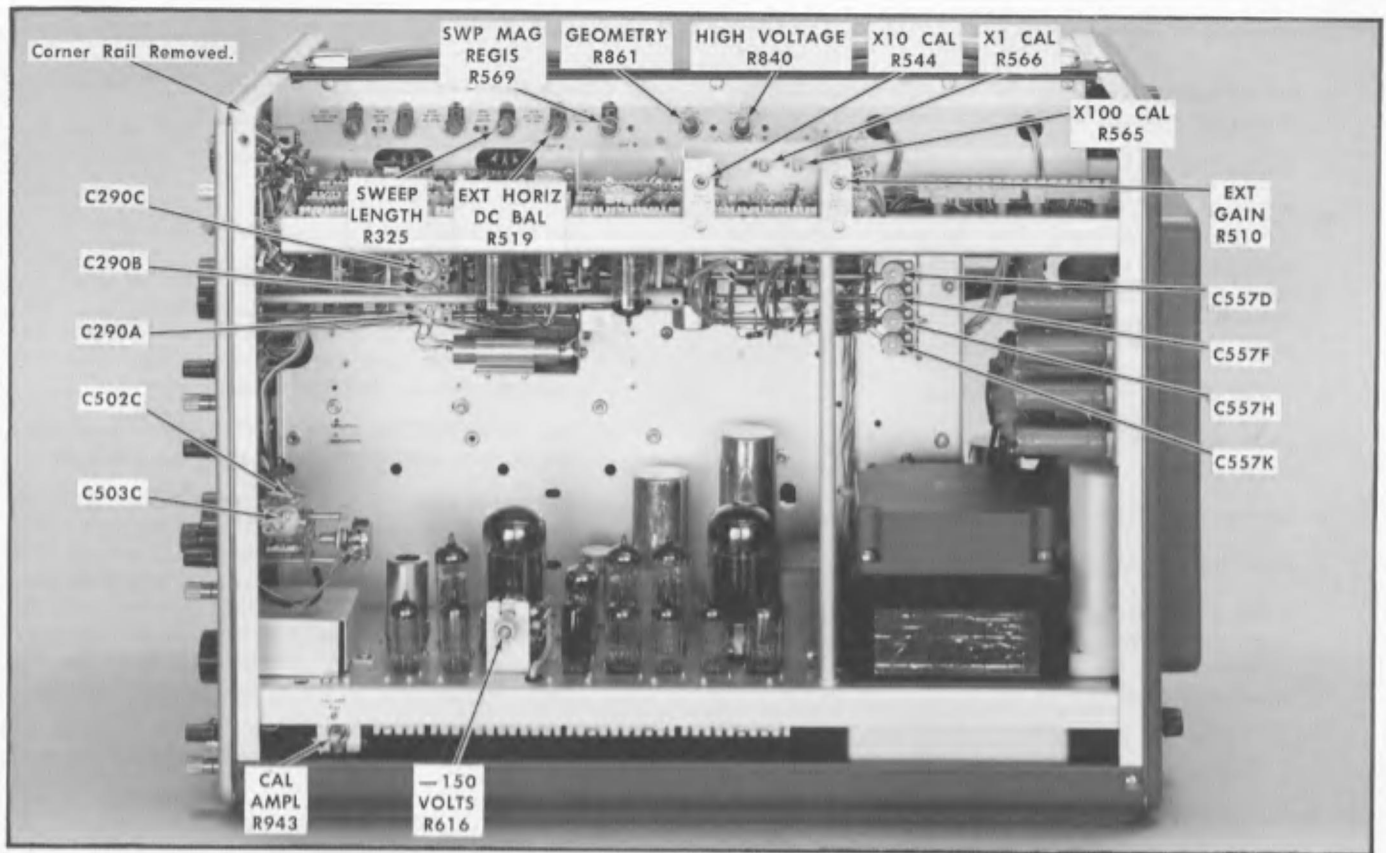

Fig. 5-2. Calibration adjustment locations (right side view).
- If necessary, adjust the —150 VOLTS R616 control (see Fig. 5-2) so all power supply voltages are within tolerance.
- b. Adjust the HIGH VOLTAGE control R840 (see Fig. 5-2) for a —1850 voltmeter indication.
- a. Connect a single binding post adapter (item 9) to the oscilloscope CAL OUT connector.
- d. Adjust the CAL AMPL control R943 (see Fig. 5-2) for a voltmeter reading of exactly 100 volts.
- g. Adjust the GEOMETRY control R861 (see Fig. 5-2) for straightest possible vertical marker-lines running parallel to the 0-cm and 10-cm graticule lines. Note the amount of bowing.